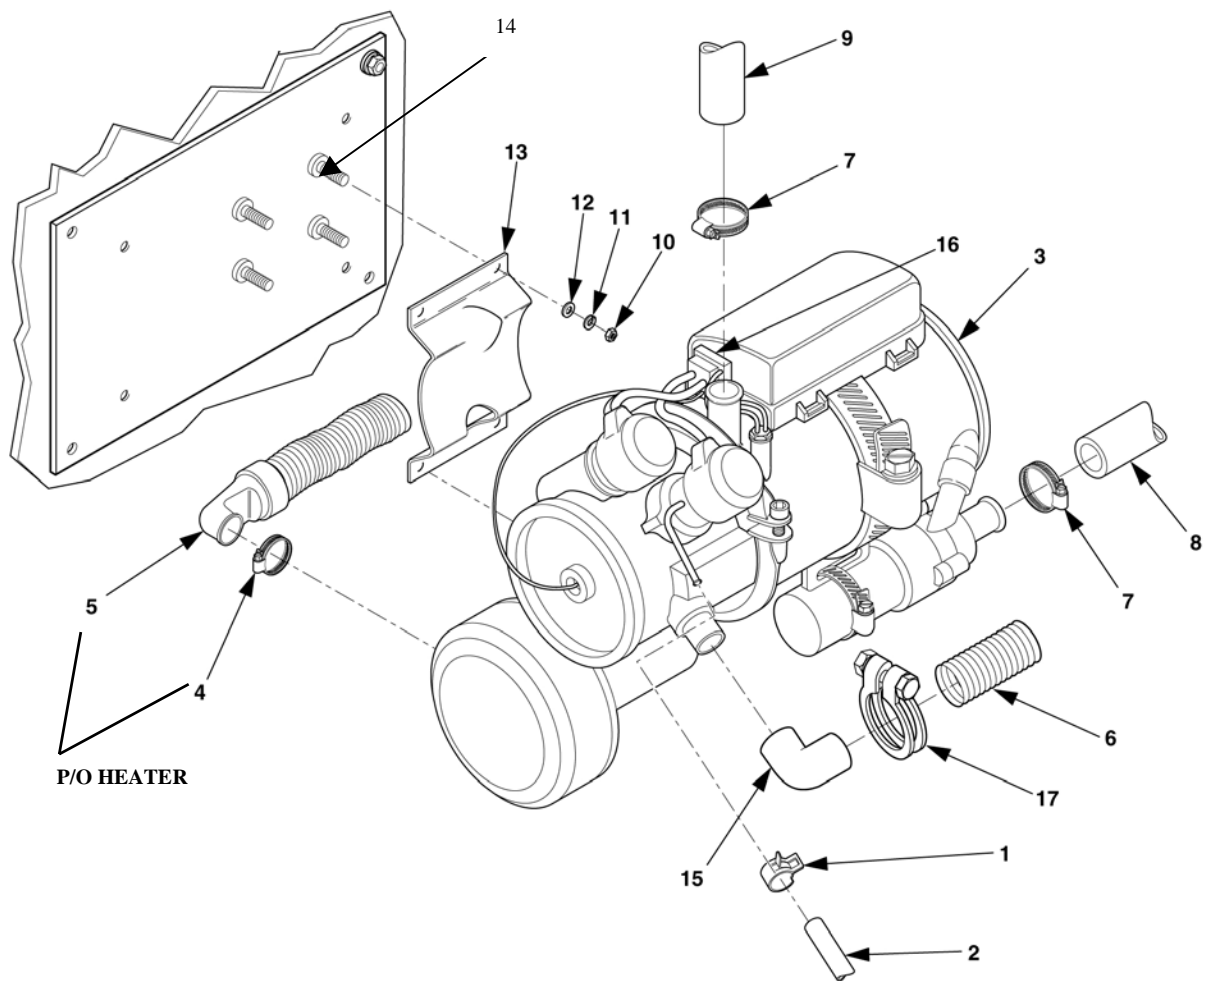

Figure 4-21. Heater Assembly Maintenance
3. Disconnect fuel clamp (1), Figure 4-21, and fuel line (2) from heater and drain any fuel from hose into a suitable container.
4. Disconnect wiring harness connector (16) from heater.
5. Remove screw clamp (17), elbow (15), and exhaust hose (6) from heater (3).
6. Position a suitable container under heater to catch coolant from hoses, and loosen screw clamps (7) to disconnect coolant inlet hose (8) and outlet hose (9) from heater (3).
7. Remove nuts (10), lockwasher (11), flatwasher (12), bolts (14), and heater (3) with mounting plate (13) from bulkhead housing.